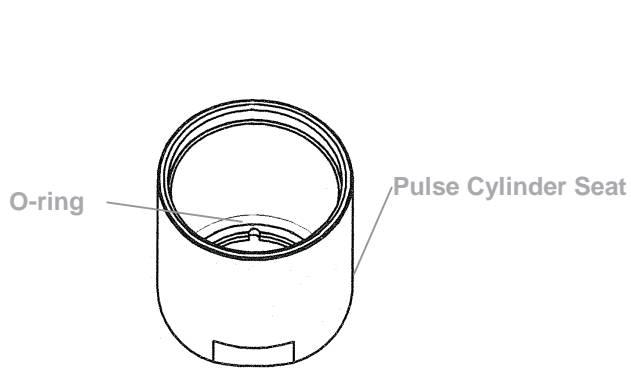
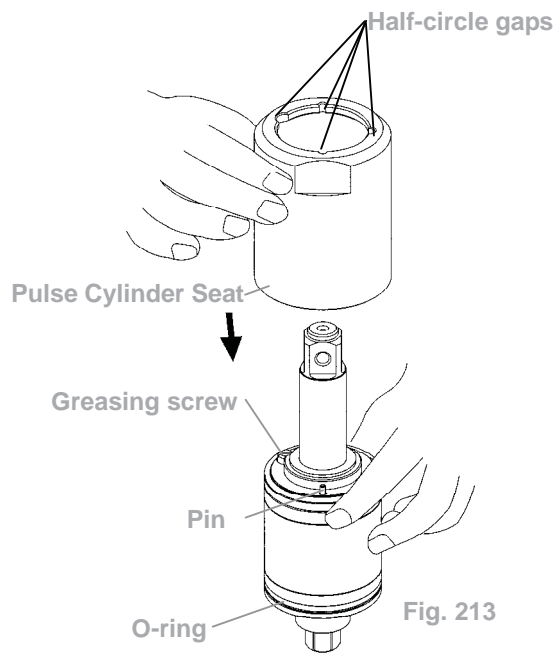

Fig. 212
Fig. 213
- 4.1 Place the O-ring inside the bottom of the pulse cylinder seat, then combine the pulse cylinder seat with the assembled pulse cylinder unit. (Fig. 212, Fig. 213).